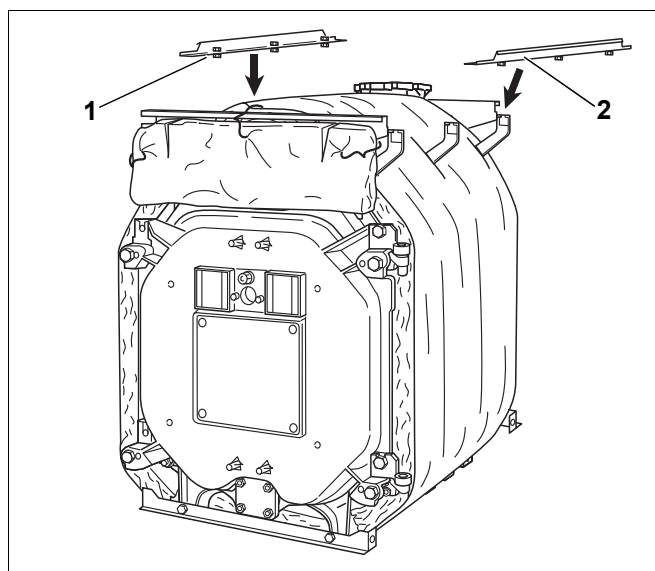

Fig. 45 Installing the longitudinal rails
- Push the longitudinal rails (Fig. 45, **[1]** and **[2]**), as already described, with pre-fitted screws into the mounting bracket recesses, and tightly secure using these screws.